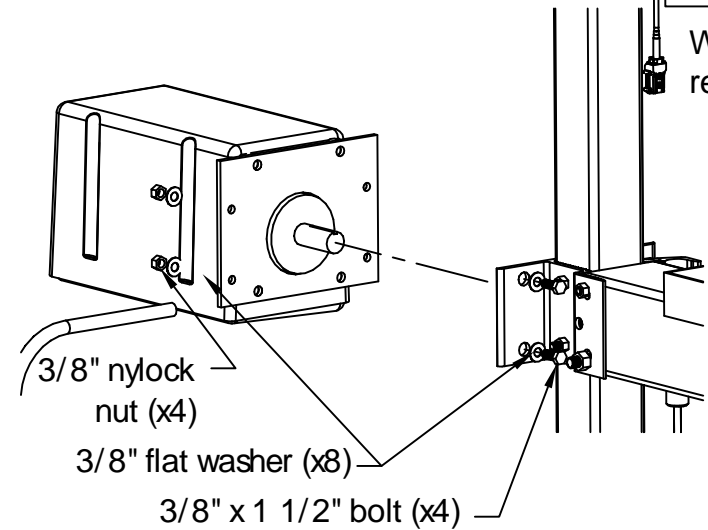

Fig. 7A
- The drive train can now be attached to the lift. Note that the rigid coupler on the drive train and ball screw mate together. With the drive train being held in place, attach it to the lift using 3/8" x 1 1/2" bolts, nylock nuts and flat washers as shown in Fig 7A. See Note: